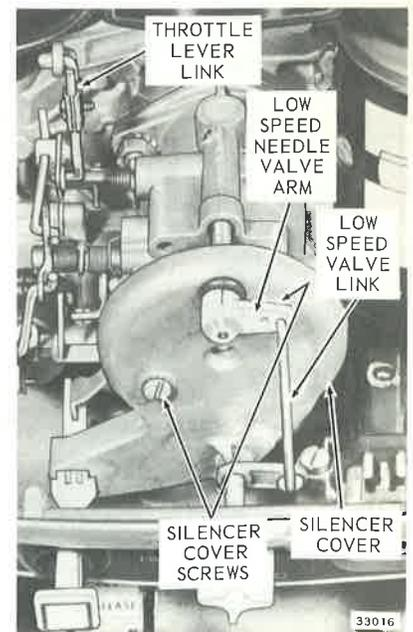

Figure 3-4b. Carburetor
- b. Remove low-speed valve arm from needle valve. See Figure 3-4b.
- c. Remove two screws attaching silencer cover to carburetor body. See Figure 3-4b. Remove silencer cover.
- d. Disconnect cam follower-to-throttle lever link. See Figure 3-4b.